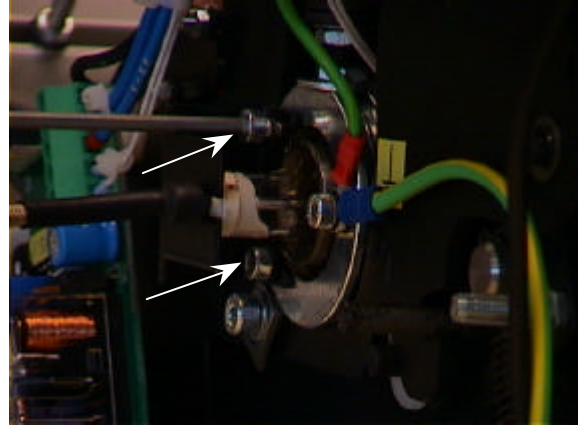

fig. 18
5. Remove the heater bracket on the right hand side of the machine (see figure 18), and slide the heater wire out of the slot, that's in the heater bracket.